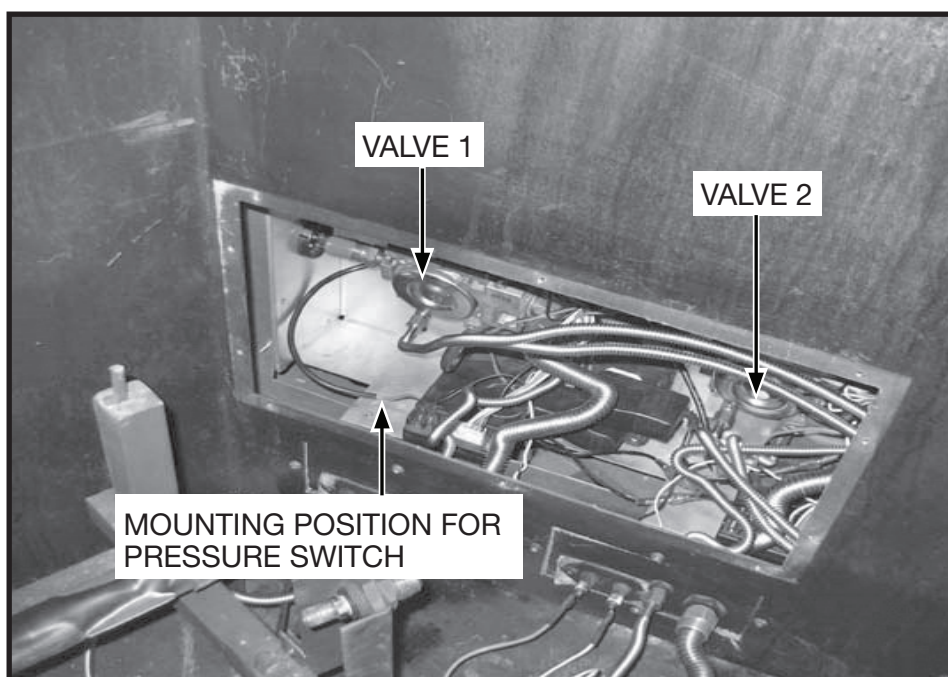
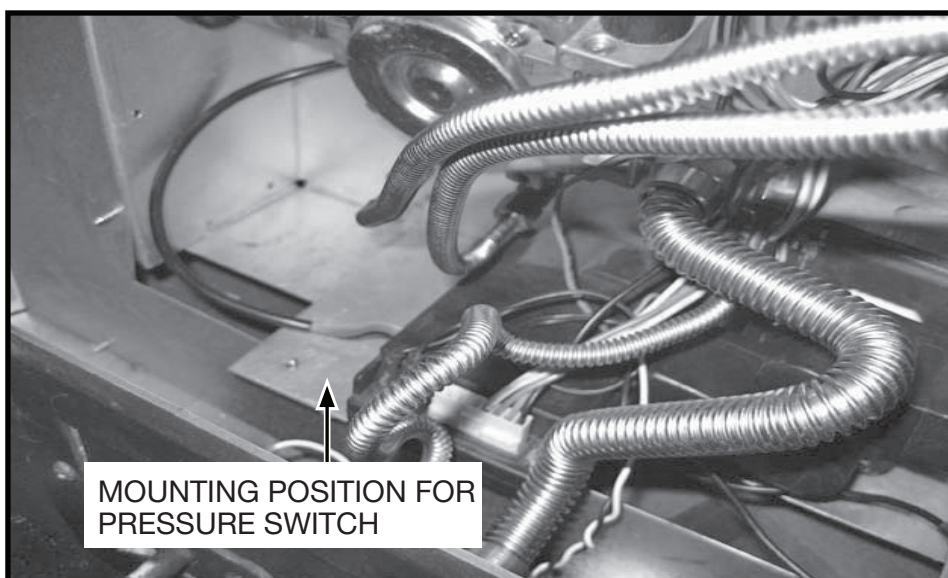

Figure 12: Opened access panel.
Figure 13: Pressure switch mounting location.
9. Locate Mounting position for Pressure Switch (Figure 12) & (Figure 13).